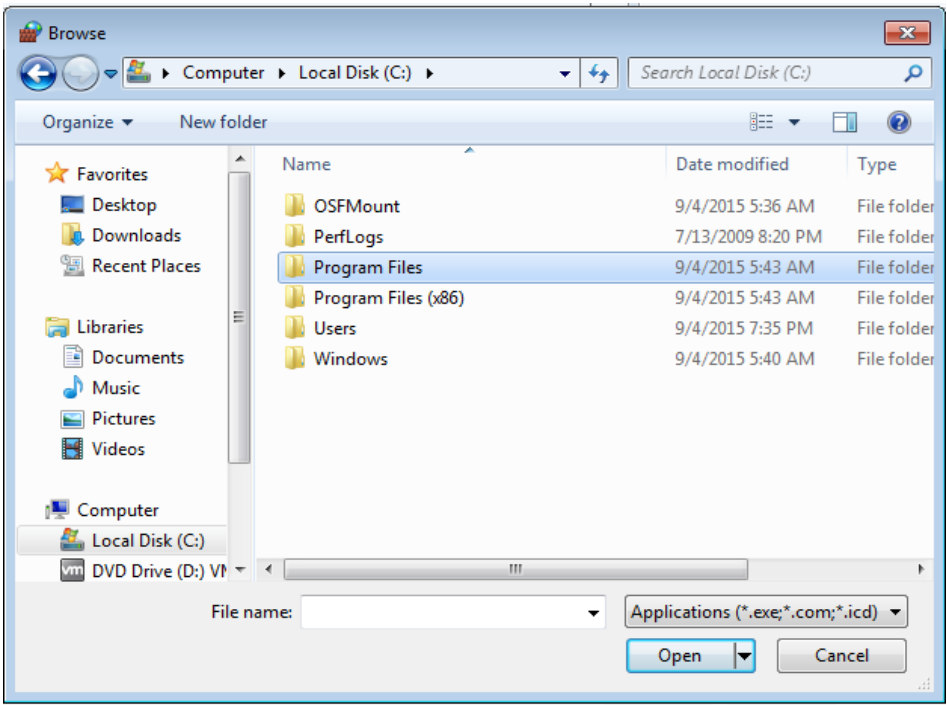

Fig.1.18 Local Disk C
(6) Click **“Browse”** and open Program Files folder in C (see Fig.1.18).